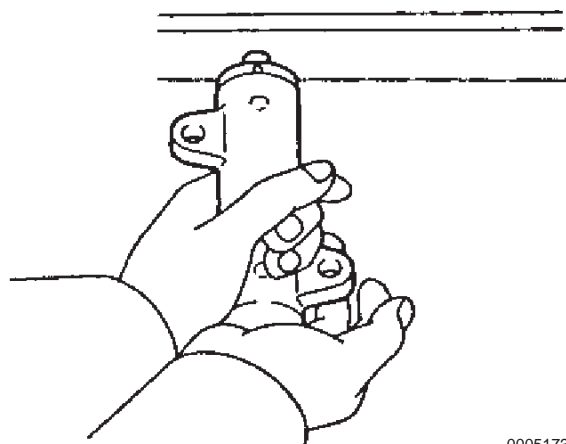

Figure 5-174
2. Hold the tensioner firmly and try to push the push rod in. The push rod should not move, if it moves, replace the tensioner (**Figure 5-174**).